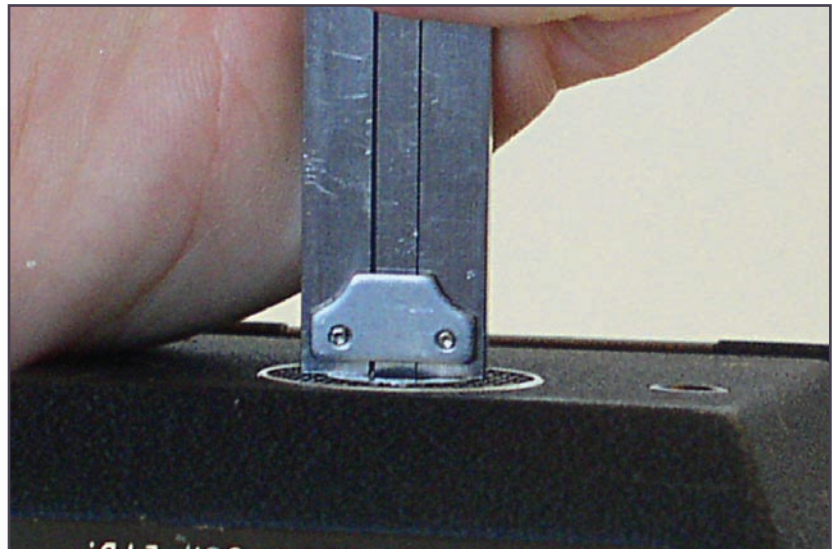

Figure 13: Gently press down against the depth probe, until the caliper just contacts the component again.
4. Gently press down against the depth probe until the caliper just bottoms again (figure 13).